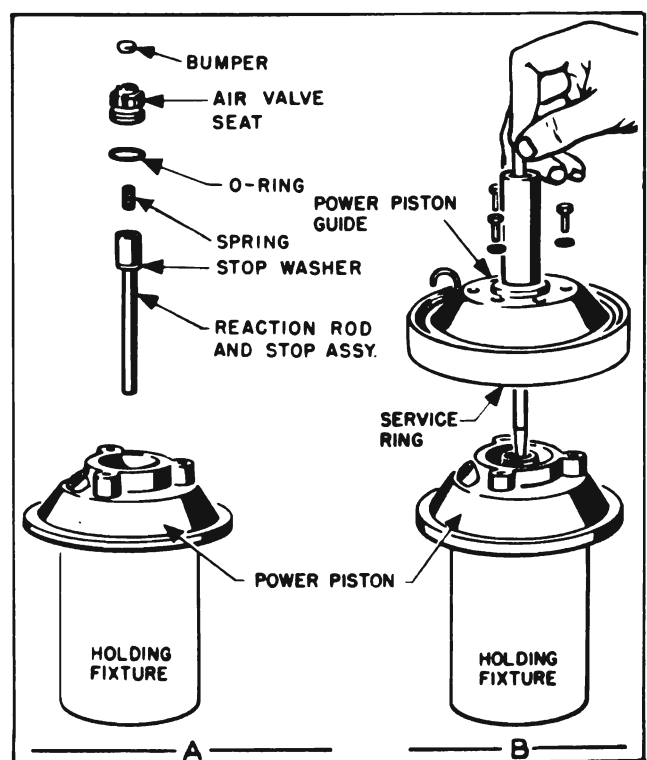

Figure 8-13—Assembly of Piston and Guide
9. Install *new* stop washer over reaction rod so that it seats snugly against the stop, install rod in power piston, and place the reaction rod spring in the stop. See figure 8-13, view A.
stop and spring. See figure 8-13, view A. **CAUTION:** *Insert the steel seat with care to avoid damaging the vacuum valve seat on the aluminum piston.*
air valve seat down against reaction rod spring while starting bolts with lockwashers. Use three equally spaced holes in guide; the other three holes are air passages. See figure 8-13, view B.